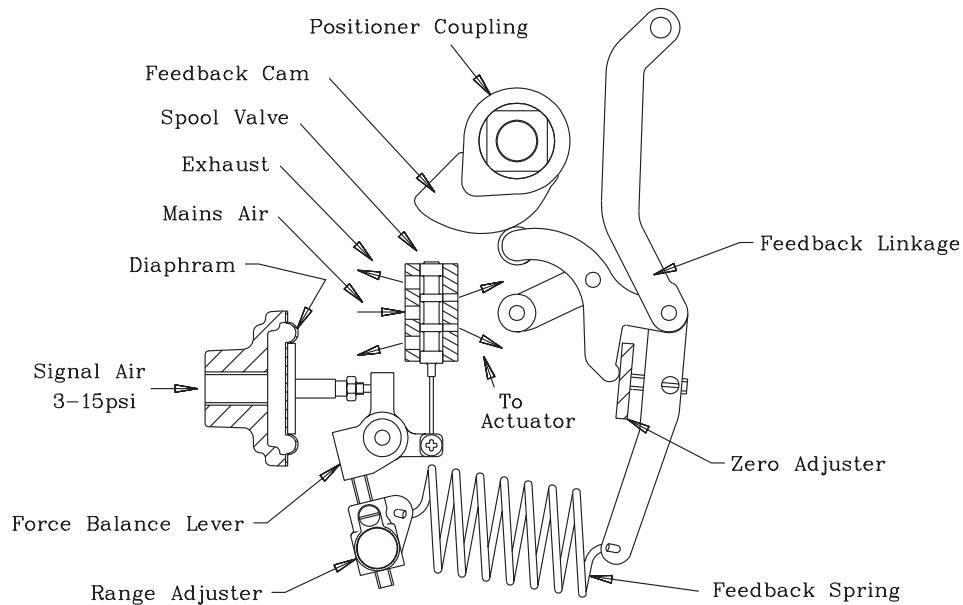

FIGURE 4. PRINCIPAL OF OPERATION.
4.2 Zero and Range Adjustment (refer to Figure 4).
b) adjustment of the built in flow restrictors (shown in Figure 4) is achieved using a screwdriver. There are two restrictors, one for each direction of travel. Clockwise rotation, they will reduce the actuator speed. 'AP' and 'MP' size units with 1/8 or 1/4 ports are controlled in this way but 'HP' size units having 3/8 ports are fitted with external silencer/restrictors which are adjusted using an allen key fitted down the centre of the adjuster.